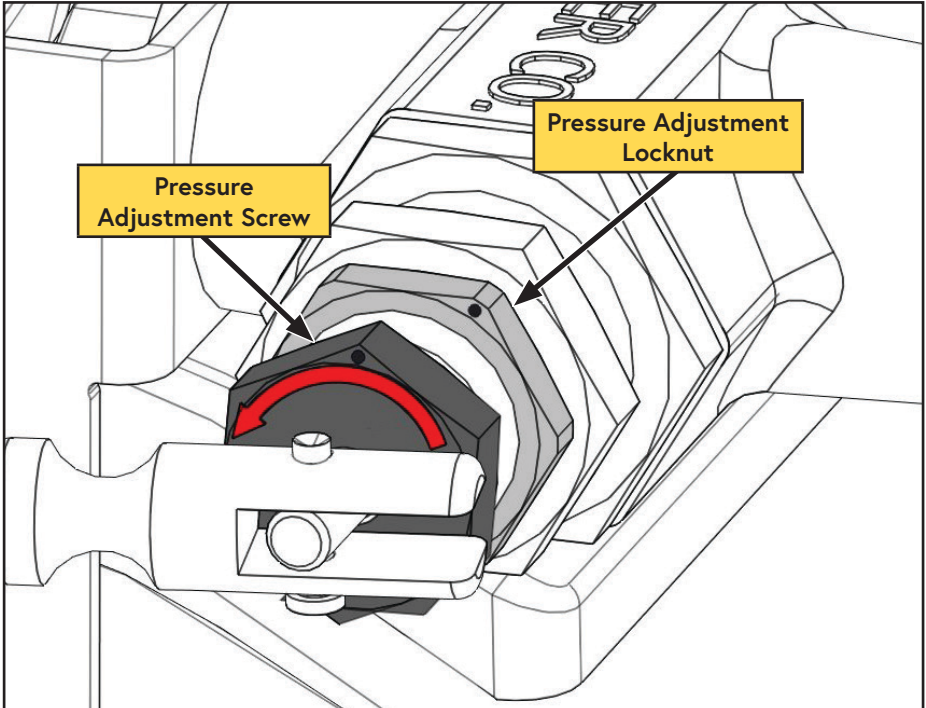

Figure 51 — Adjusting the Unloader Valve
- While securely holding the "Pressure Adjustment Screw", loosen the "Pressure Adjustment Locknut" (Figure 51).